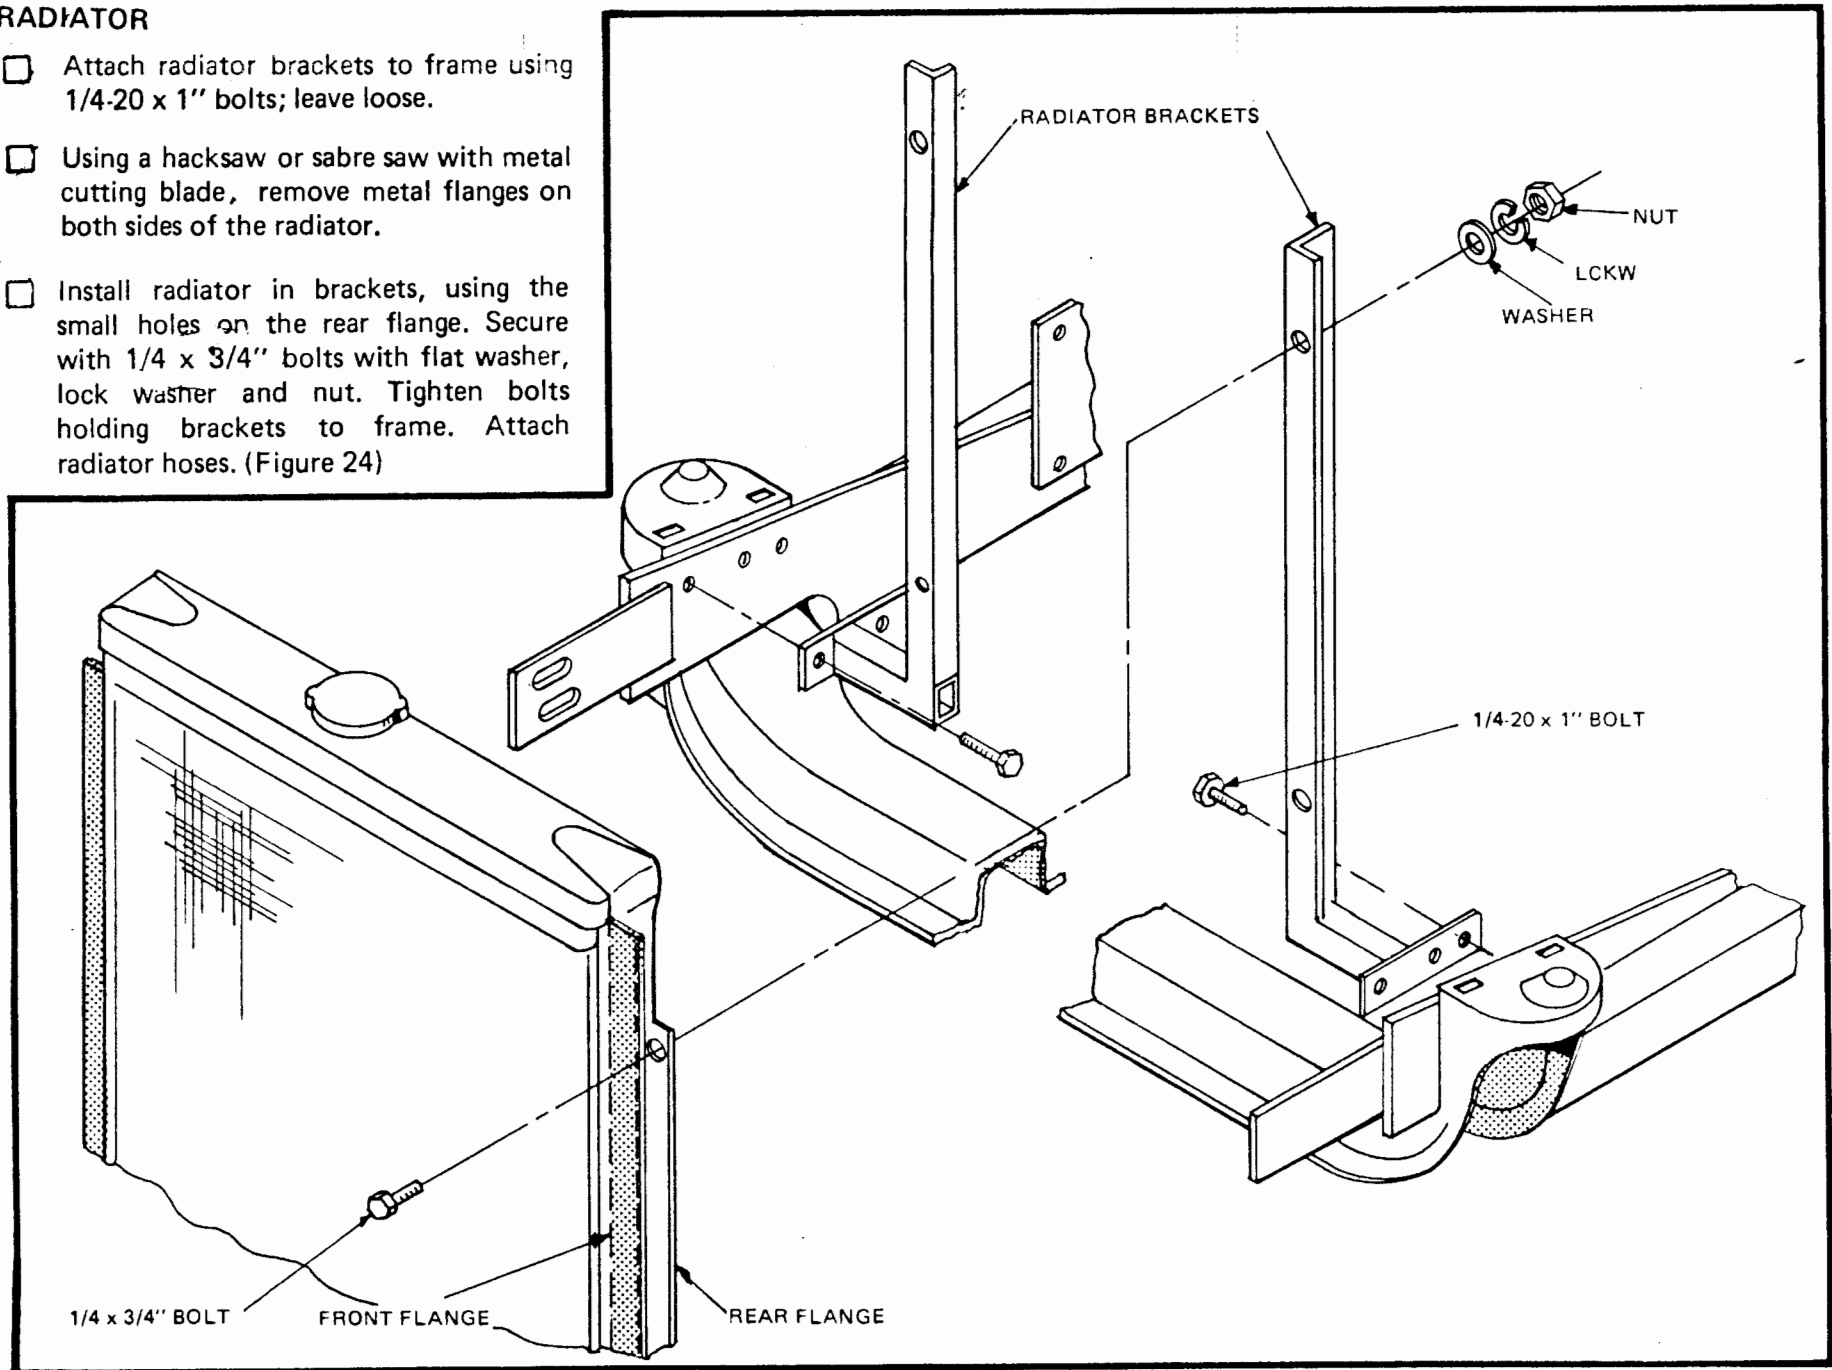

Figure 24
- Install radiator in brackets, using the small holes on the rear flange. Secure with 1/4 x 3/4" bolts with flat washer, lock washer and nut. Tighten bolts holding brackets to frame. Attach radiator hoses. (Figure 24)